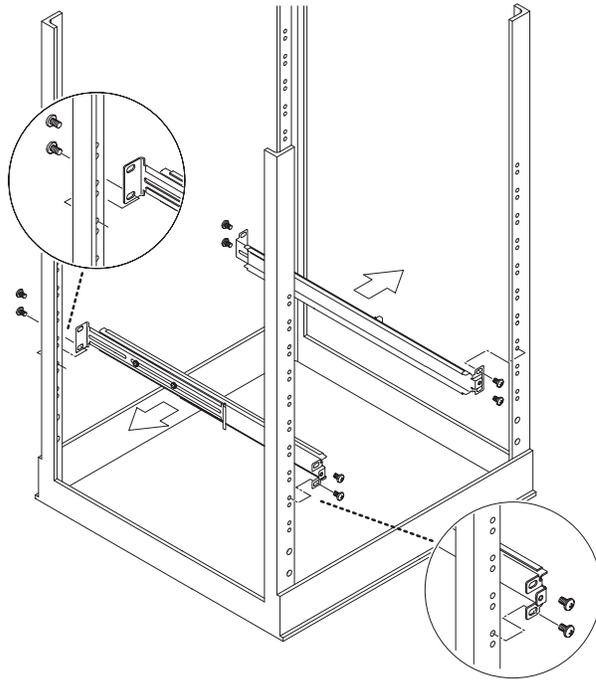

FIGURE 2-9 Fastening the Slide Mounts to a Standard 19-inch Rack (Rear View)
8. For a standard 19-inch rack, see FIGURE 2-9. Leave the screws slightly loose to allow adjustment as you slide the system into the rack.